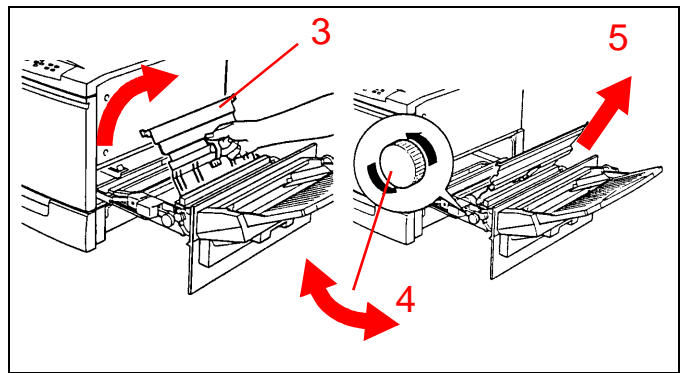

Figure 13
3. See Figure 13. Lift up on the green handle to open the cover.